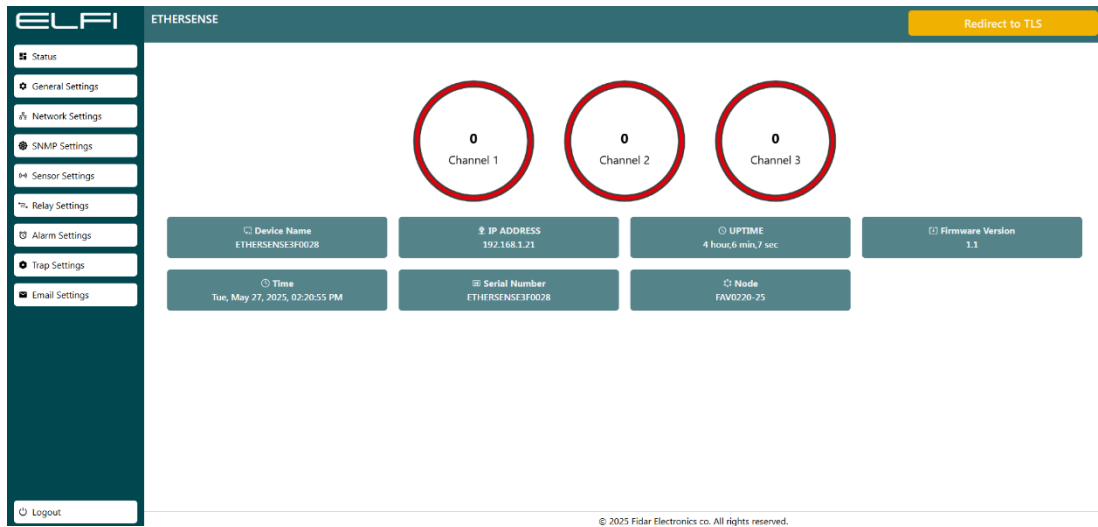

Figure 6: Detector “Status” Menu
The Status page is specifically designed to provide real-time monitoring of the AC voltage detector's performance. This digital detector operates in only two states: Active (1) and Inactive (0). This page can be used to observe critical events within the system (see Figure 6).